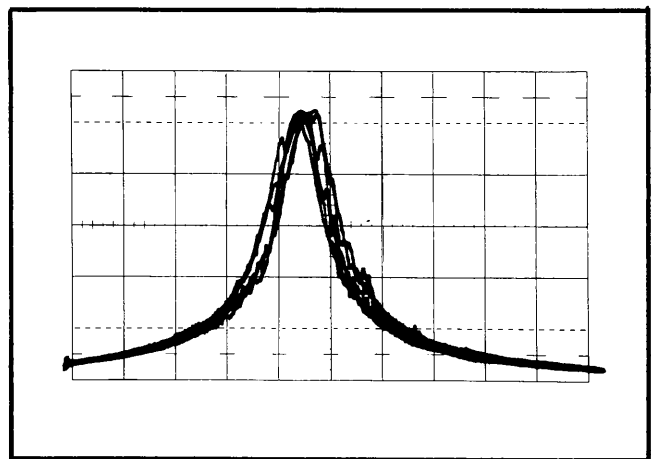

Fig. 5-6. Typical display for Incidental Frequency-Modulation Check (Step 17).
- f. Adjust the POS control for a display similar to Fig. 5-6.